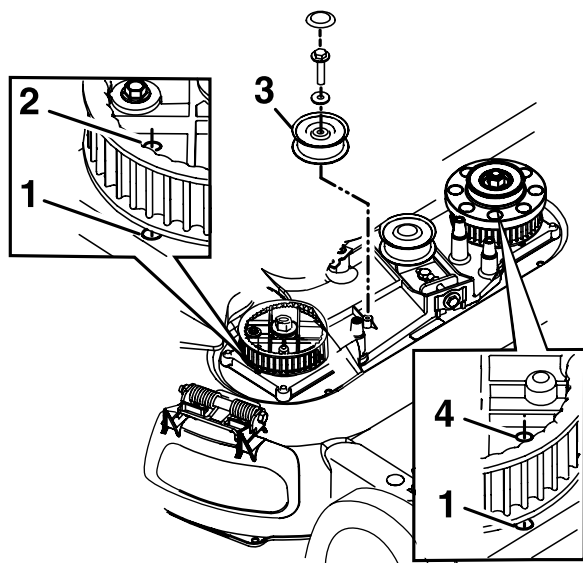

Figure 37
8. Remove the fixed idler pulley and the hardware (Figure 37).
10. Align the holes in the right and left sprockets with the holes in the housing as shown in Figure 37.